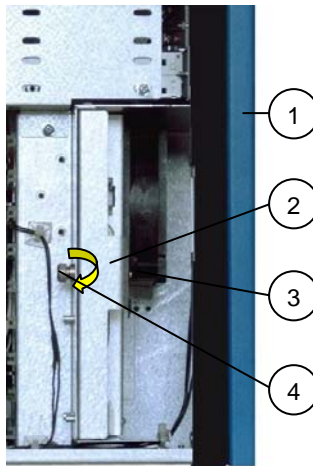

Fig. 24: KISS 4U-Platform with fan slide-in module (Detail)
2. Loosen the captive knurled screw (Fig. 24, pos. 4). Use the handle (Fig. 24, 24a, pos. 2) of the fan slide-in module and pull it out from the fan case (Fig. 24c, pos. 9).
**Legend for figures: 24, 24a, 24b and 24c**